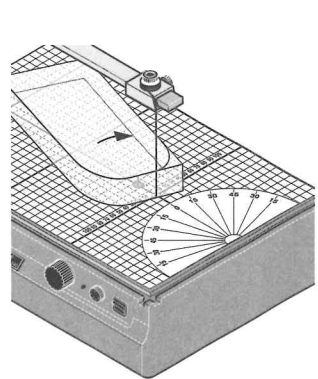

Fig. 7
- You can make a simple device yourself for cutting circular segments. Fix a drawing-pin at the centre of the required circle on the working table with a piece of tape. Fix the workpiece onto the pin and turn the workpiece around the pin (Fig. 7).